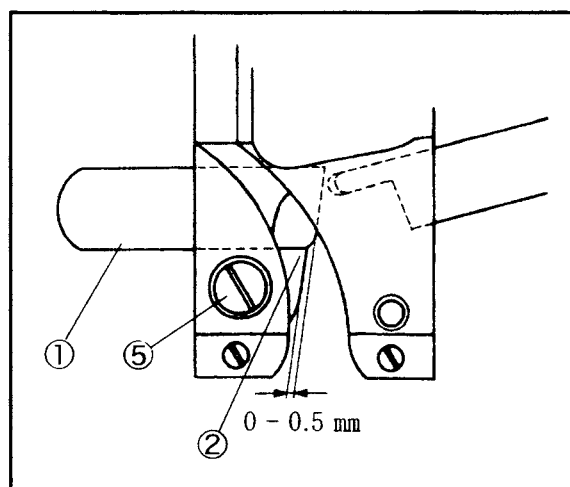

Fig. 39
For the standard position of the lower knife①, make the distance between the lower knife①tip and the lower knife clamp②to 0 -0.5 mm. (Fig. 39)
底刀①的標準位置要留距離在底刀①尖端和鎖底刀座②之間0-0.5 mm。(Fig. 39)